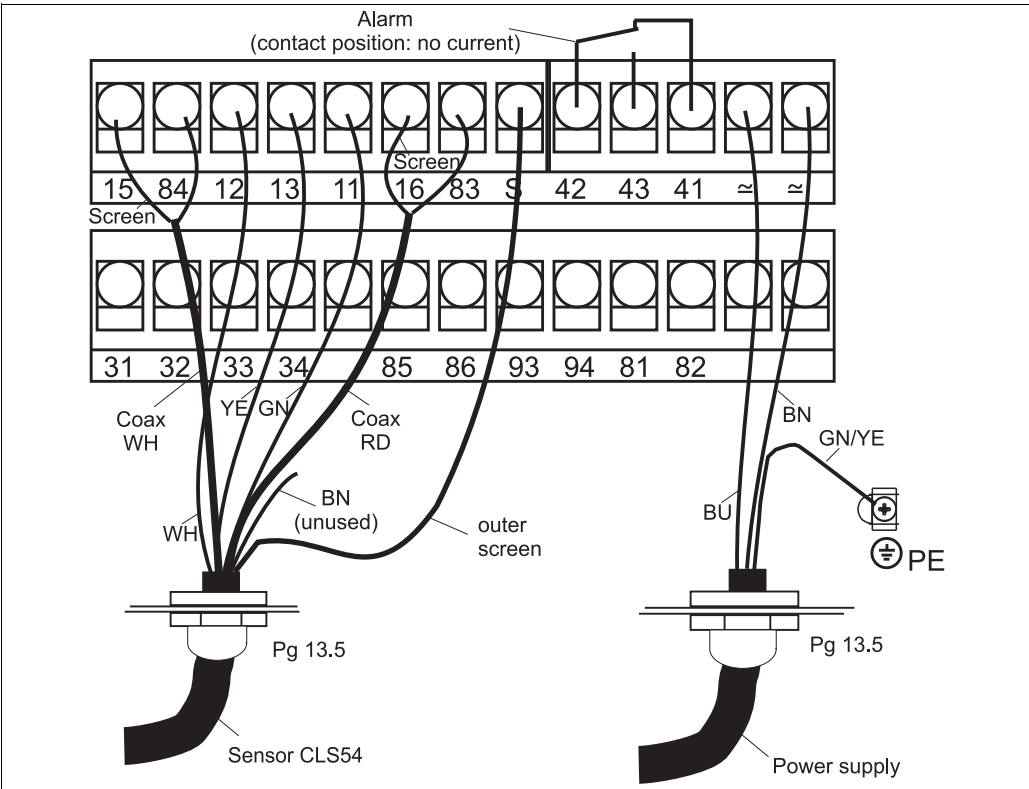

Fig. 20: Electrical connection of Smartec S CLD134
4. Connect the power wires according to the terminal assignments in Fig. 20.
5. Connect the alarm contact according to the terminal assignments in Fig. 20.
7. Separate version: Connect the sensor according to the terminal assignments in Fig. 20.